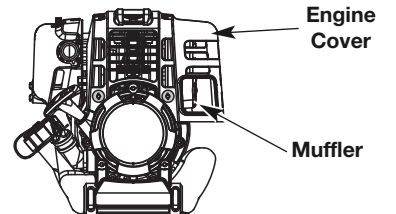

Fig. 28
- Remove the engine cover (Fig. 28).